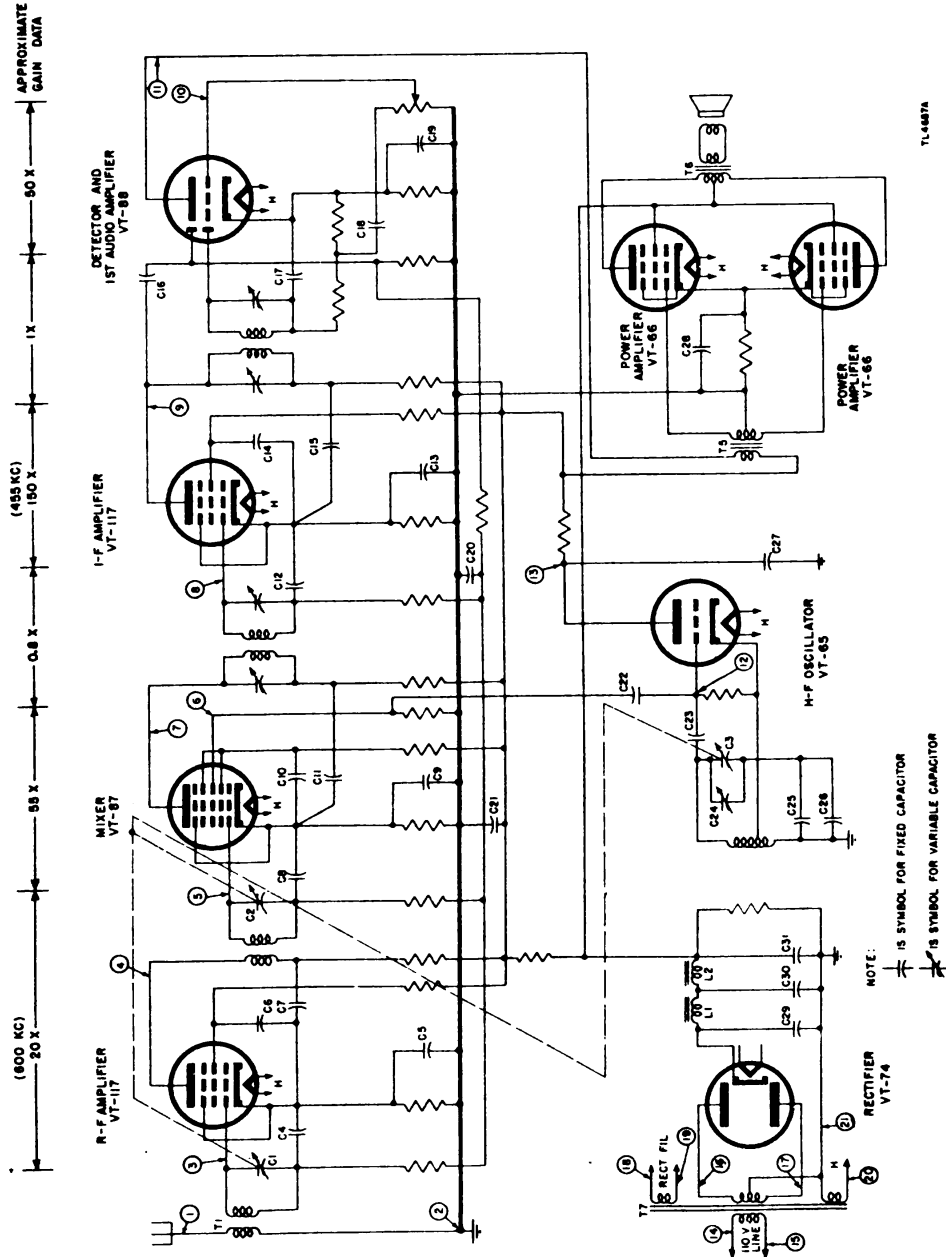

Figure 8. Typical receiver, schematic diagram.
Paragraphs 13 through 19 explain some of the applications of the vtvm. For this purpose, a basic radio receiver (fig. 8) has been selected arbitrarily to point out the major features in a sample performance.
**a. Good Capacitor.** When a capacitor by-passes r-f, a-f (audio-frequency), or l-f (low-frequency) a-c voltages, the alternating voltage across its terminals is approximately zero. For example, negligible a-c voltage readings would normally be obtained across capacitors C5, C6, C7, C8, C9, C10, C11, C12, etc. in figure 8.
a. When the output of a signal generator is connected to the input terminals of a receiver (test points 1 and 2 in fig. 8), a load is imposed on the signal generator output by the input circuit of the receiver. As a result of this loading, the output voltage of the signal generator is reduced. If the vtvm is also connected across the input terminals, there may be no readable deflection of the meter pointer (see NOTE).
b. If the vtvm is connected between the grid of the first r-f amplifier tube and the chassis (test points 3 and 2 in fig. 8), a deflection may occur when the signal generator and the first r-f grid circuit are tuned to the same frequency. Such a reading indicates that the input circuit is operating.
d. When only one stage of r-f amplification is used, compare voltage readings at the plate of the r-f amplifier tube and the grid of the mixer tube (test points 4 and 5 in fig. 8) to gauge the efficiency of transformer action.
(1) The signal generator is connected to the input terminals, and the vtvm is connected between the grid of Tube VT-87 and the chassis (fig. 8).
(2) Rotate the receiver tuning capacitor (C2 tunes the grid circuit of Tube VT-87) and note the reading on the meter.
(3) The voltage should increase sharply as the capacitor is rotated towards the frequency to which the signal generator is tuned.
(4) Conversely, set the receiver tuning control at any predetermined frequency, such as 1,000 kc; then tune the signal generator from some lower frequency to a higher frequency through 1,000 kc.
(5) The voltage reading should increase sharply as the signal generator tuning approaches 1,000 kc, reach a peak at 1,000 kc, and then decrease as the frequency of the signal generator is increased above 1,000 kc.
a. The oscillator output voltage is checked by measuring the a-c voltage between the grid of the oscillator tube and the chassis (test points 12 and 2 in fig. 8). As an alternative, the a-c voltage between the plate of the tube and the chassis (test points 13 and 2) may be measured if it is physically more convenient.
d. If the oscillator tube is a single-ended type in which the control grid connection is not made at the tube cap, measurement may be made, for convenience, between the stator plates of the oscillator capacitor (C3 in fig. 8) and the chassis.
e. In a few cases, it may be found that the tests given above for oscillator operation show a normal condition, although the receiver is dead. This may be caused by the fact that no oscillator voltage is being applied at the injector grid of the mixer tube (test point 6). If the blocking capacitor (C22 in fig. 8) is shorted or open, the receiver will not operate normally.
(1) If the capacitor is open, the normal oscillator output voltage will not reach the injector grid.
(2) Faulty operation of the mixer stage will occur if the capacitor is shorted, because a d-c potential is applied to the injector grid. In this case, a check of the a-c voltage at the injector grid may indicate a normal condition since the probe would not indicate the presence of the abnormal d-c voltage present. Therefore, it is necessary to change over and use the d-c section of the vtvm which ignores the presence of a-c voltage and measures only d-c potentials.
b. The a-c voltage measured between the plate of the mixer tube and the chassis (test points 7 and 2 in fig. 8) is a resultant of the following:
- (1) The signal voltage applied to the mixer control grid.
- (2) The oscillator output voltage applied to the injector grid.
- (3) A voltage existing at a frequency equal to the sum of the signal and oscillator frequencies.
- (4) A voltage existing at a frequency equal to the difference between the signal and oscillator frequencies. When the i-f amplifier input transformer is producing normal transformer action, this difference frequency voltage is the only one reaching the grid of the i-f amplifier Tube VT-117.
c. Since the vtvm measures voltages at all frequencies without discrimination, the measurement at the plate of the mixer tube will show the total voltage appearing at this point as a resultant of all voltages given in subparagraph b above. On the other hand, a measurement made between test points 8 and 2 in figure 8 will indicate only the i-f voltage at the grid.
- (1) From a modulated signal generator whose output is fed to the antenna and ground terminals of the receiver. In this case, the signal is amplified by the r-f and i-f stages, demodulated by the detector, and the audio component measured at the a-f section by the vtvm.
(2) From an audio oscillator or other a-f signal source, directly to the control grid of the first a-f amplifier tube. This method is advantageous since any possible trouble in the r-f and i-f sections will not influence the tests, and most audio oscillators are capable of supplying any a-f voltage from approximately 100 to 10,000 cps (cycles per second). This permits voltage measurements to be made at various audio frequencies and, in this way, the frequency response characteristics of the a-f amplifier may be determined.
b. The audio input signal voltage may be measured between the grid of the first a-f amplifier tube and the chassis (test points 10 and 2 in fig. 8). Another measurement may be made between the plate of this tube and the chassis (test points 11 and 2) to determine the gain of the tube. This gain is, of course, the voltage and not the power gain of the amplifier. The power amplifier may be checked in the same manner.
b. Transformer voltages up to 250 volts may be checked with the a-c section of the vtvm. For example, in figure 8 the 110-volt line voltage across the primary of transformer T7 may be checked by connecting the vtvm to points 14 and 15. The high-voltage secondary may be checked by connecting a high-voltage a-c voltmeter between points 16 and 17, the low-voltage rectifier secondary by connecting the vtvm between points 18 and 19, and the low-voltage heater secondary across points 20 and 21.